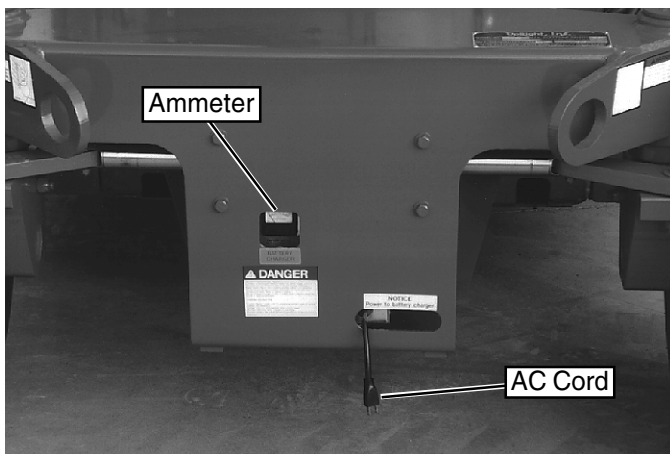

Figure 7: Battery Charger
3. Connect extension cord (minimum 12 gauge (1.5 mm) conductor and maximum 50 ft. (15 m) in length) to charger plug located through the opening in front of the chassis (Figure 7). Connect extension cord to properly grounded outlet of proper voltage and frequency.